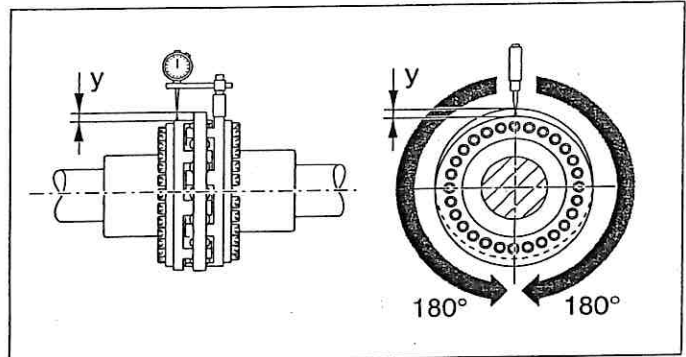

Fig. 6
- Measure a complete revolution (360°). Determine the largest deviation  $y_1$  as well as the smallest deviation  $y_2$  (Fig. 6). Calculate the radial misalignment  $y = 0.5 \cdot (y_1 - y_2)$ .